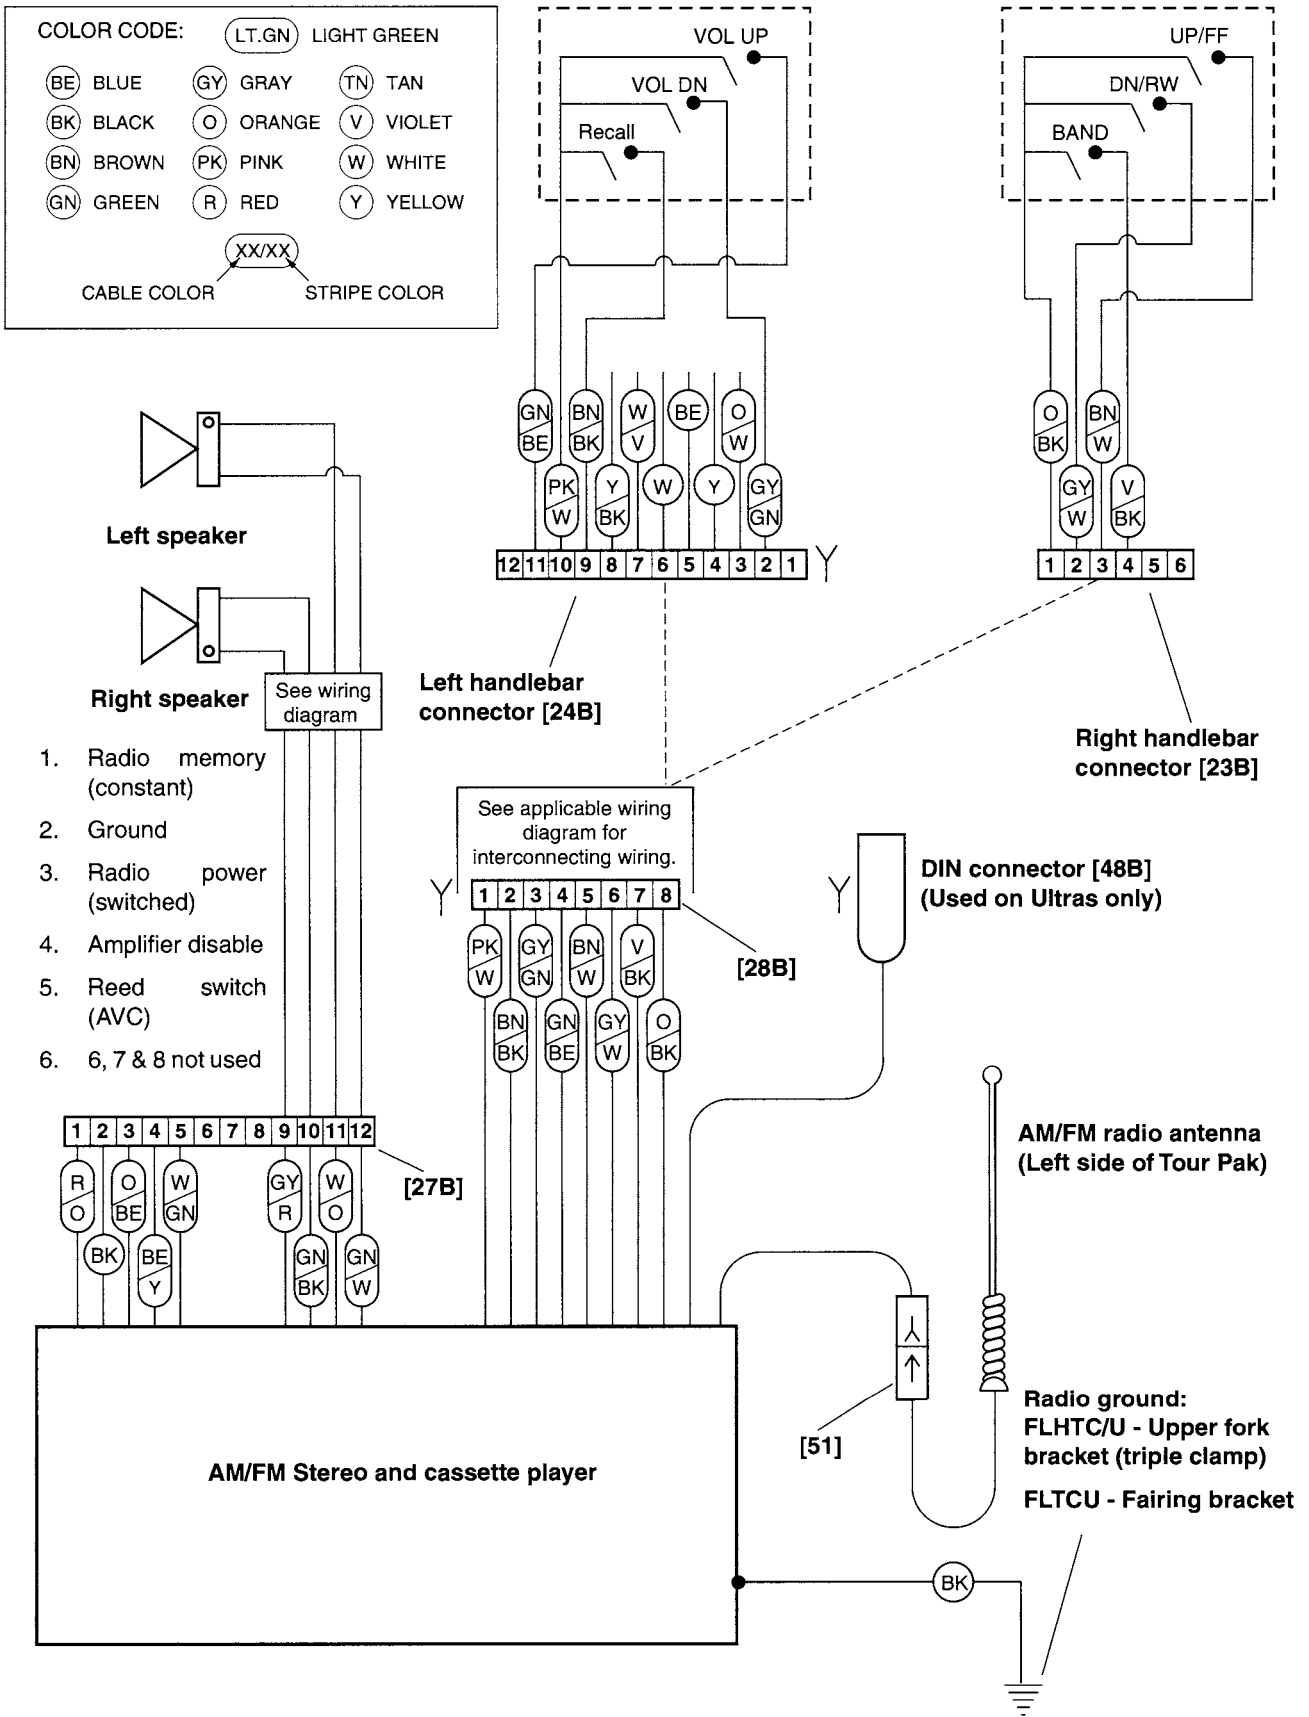
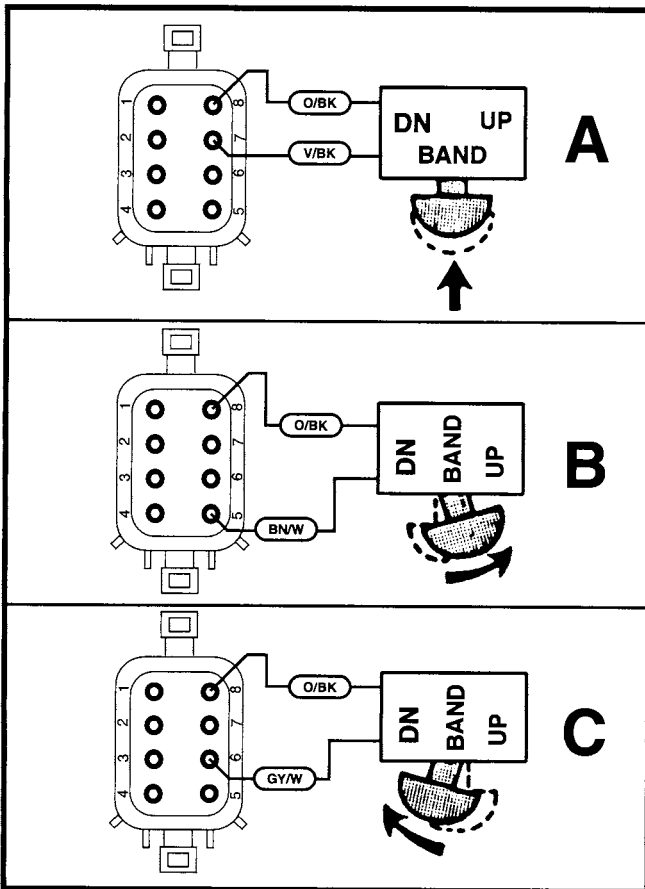
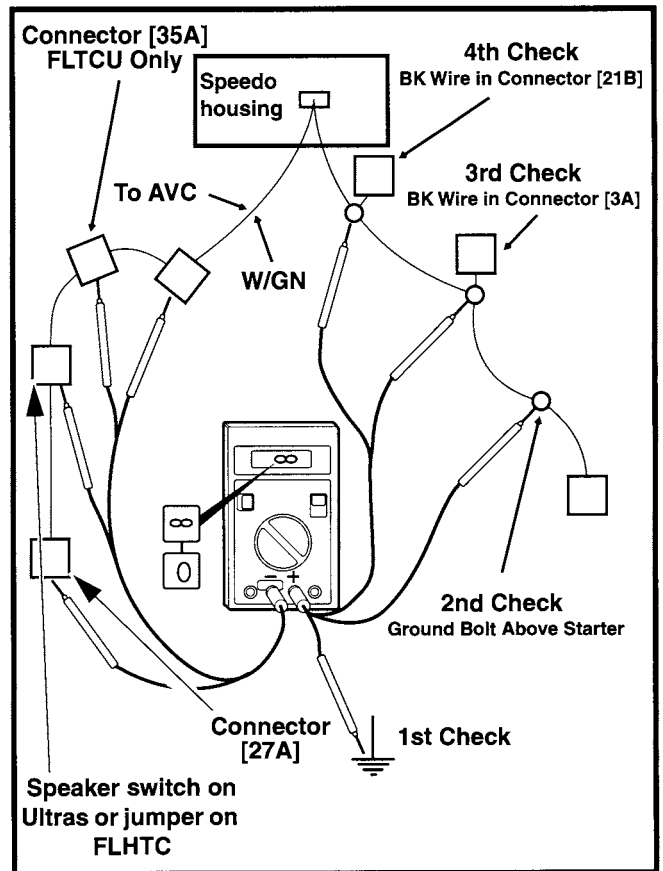

Figure 39. Wiring Diagram
Figure 42. Function Switch Test
Figure 44. Reed Switch Test Connections
Inoperable or abnormal operation of handlebar controls may be caused by grounds or shorts (to + 12 vdc). The following tabulations give symptoms and identify where in the circuitry a ground or short may exist. Refer to Figure 39 to determine the switch and lead connections.
1. Refer to Figure 39. Disconnect connector halves [23B] and [24B].
See Figure 39 for socket numbers of wire colors shown in Figures 42 and 43.
2. Refer to Figure 42, View A. With ohmmeter, place probes on pins (1) and (4) on connector [23B]. Push function switch straight inward. Meter should register zero ohms. A resistance reading significantly higher than zero indicates the switch contacts are not closing and the switch should be replaced. Release the switch control knob. The meter should now register infinite ohms. If the meter registers a reading other than infinite ohms, the contacts are not fully opening and the switch should be replaced.
3. Refer to Figure 42, View B and C. Place the meter probes on the pins and move the switch control knob in the direction shown. The meter should indicate zero ohms with the probes at appropriate connector pins. The meter should register infinite ohms when the switch knob is released.
Refer to Figure 39. Disconnect connector [28]. Connect voltmeter black lead to vehicle ground. Turn ignition switch ON. Touch each pin of pin connector [28A] with red probe and watch for an indication of voltage on meter. There should be no voltage present at any of the pins. If a voltage is present, this is an indication of current flow into the radio control circuit from source other than radio chassis.
1. See Figure 44. Connect one lead of ohmmeter to W/GN wire, at connector [27A], that connects speedometer reed switch to radio. See Figure 39 if necessary.